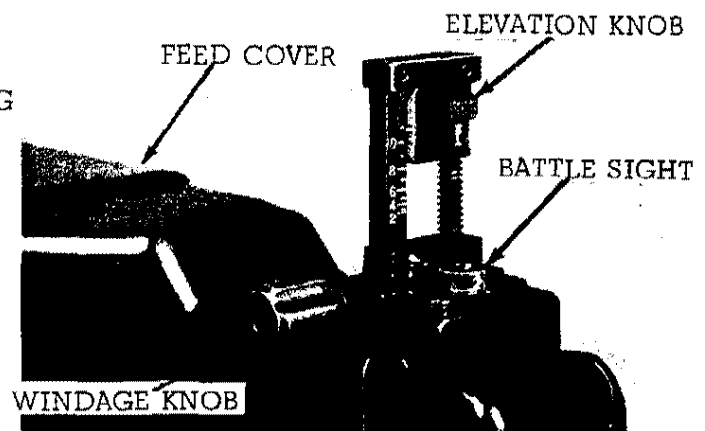

FIGURE 3. REAR SIGHT--RAISED POSITION
g. Rear Sight. The rear sight (figure 3) has two controls and a battle sight.
(1) Elevation knob. The elevation knob (figure 3) is located on the right side of the leaf sight. The function of the knob is to provide fine vertical adjustment of the sight.
(2) Windage knob. The windage knob (figure 3) is located on the left side of the sight base. The function of the knob is to provide accurate lateral adjustment.
(3) Battle sight. The battle sight (figure 3) is located on the base of the leaf sight and is used when the leaf sight is in the down position and corresponds to the leaf sight set at a range of 200 meters.